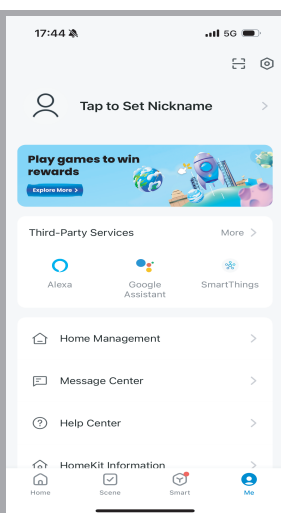

Fig. 20
G). Back to the main interface of the App, click the icon Me  to get more about the App (Fig.20), and also you can **clear the cache** here.